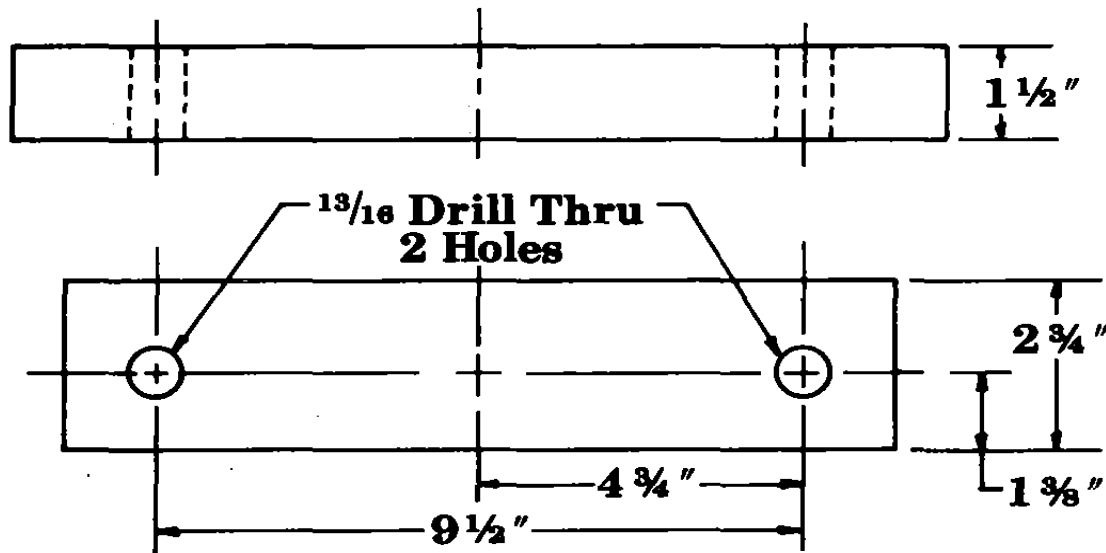

FIGURE 2. Bearing Puller
4. Remove bearing locknut (46), bearing lockwasher (43) and checknut (47) from power rotor shaft.
5. Remove bolts (9) and bearing retainer (48).
6. Cut two $3/4$ -10 continuous thread studs long enough to thread $13/8$ inches into inboard cover (40) and extend one inch past end of power rotor (11) shaft. Install studs in inboard cover located 180 degrees apart. Thread a nut on each stud to lock stud in position.
7. Pull power rotor (11) assembly forward from pump until seat adapter (15) extends from pump. Refer to figure 2 and cut a $1\frac{1}{2}$ -inch thick metal plate approximately $13\frac{3}{8}$ inches long and $2\frac{3}{4}$ inches wide. Drill two $13/16$ -inch holes, $9/16$ inches apart in the metal plate. Place drilled flat metal plate over end of power rotor (11) shaft with studs fitting in drilled holes. Install nuts on ends of both studs.